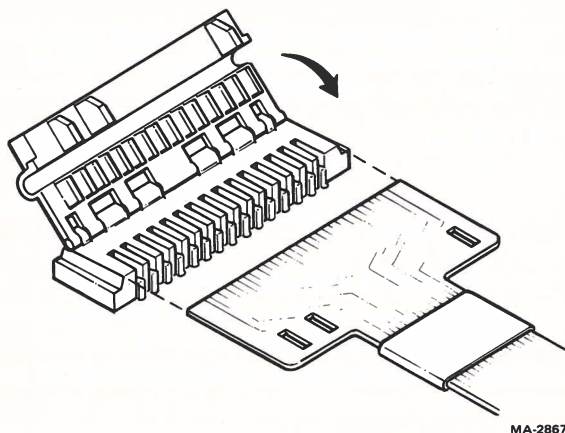

Figure 2-9 Print Head Ribbon Cable Removal
3. Remove the logic board safety cover to gain access to the print head cable. Gently disconnect the print head ribbon cable from J5 on the logic board by lifting the top cover of the plug (Figure 2-9).
The ribbon cable is keyed and must be reinstalled correctly to ensure proper operation (Figure 2-9).